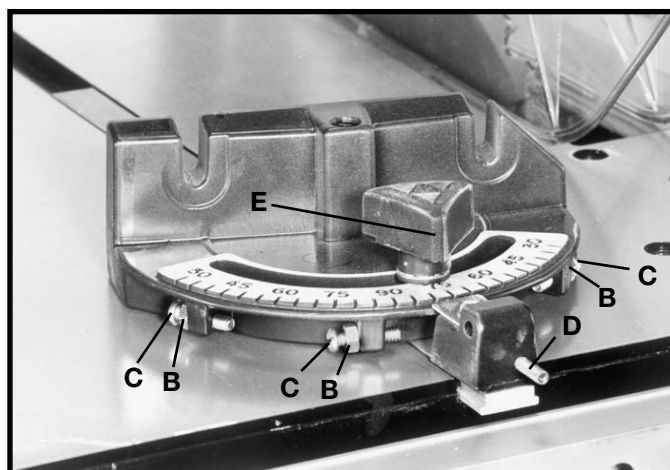

Fig.49
This miter gage is equipped with individually adjustable index stops at 90 degrees and 45 degrees right and left. Adjustment to the index stops can be made by loosening lock nuts (B) Fig. 49, and tightening or loosening the three adjusting screws (C) until they contact the other end of stop pin (D) when the miter gage is at 90 and 45 degrees to the saw blade. Then, tighten lock nuts (B).
To operate the miter gage, simply loosen lock knob (E) Fig. 49, and move the body of the miter gage to the desired angle. When the stop pin (D) is pushed in, the miter gage body will stop at 90 degrees and 45 degrees right and left. To rotate the miter gage body past these points, pull out stop pin (D).